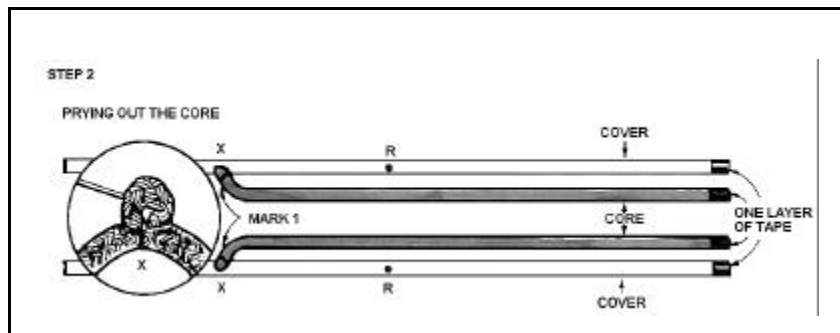

Figure 12-67. Extracting the Cores
- STEP 2 -- Extracting the cores.** Bend line sharply at point X. With the pusher or any sharp tool such as an ice pick, an awl, or a marlinespike, spread cover strands to expose core. First pry, then pull core completely out of cover from point X to the end of the line. Put only one layer of tape on end of core (see Figure 12-67). To be sure of correct positioning of Mark 1, do the following: Holding the exposed core, slide cover as far back towards the tightly tied slip knot as you can. Then, firmly smooth cover back from the slip knot towards taped end. Smooth again until all cover slack is removed. Then, mark core where it comes out of cover. This is Mark 1. Do this to both lines.